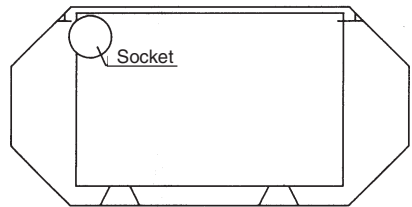

Fig. 7
- Is not positioned on the bracket (Fig. 7) if wallwash inserts are used.